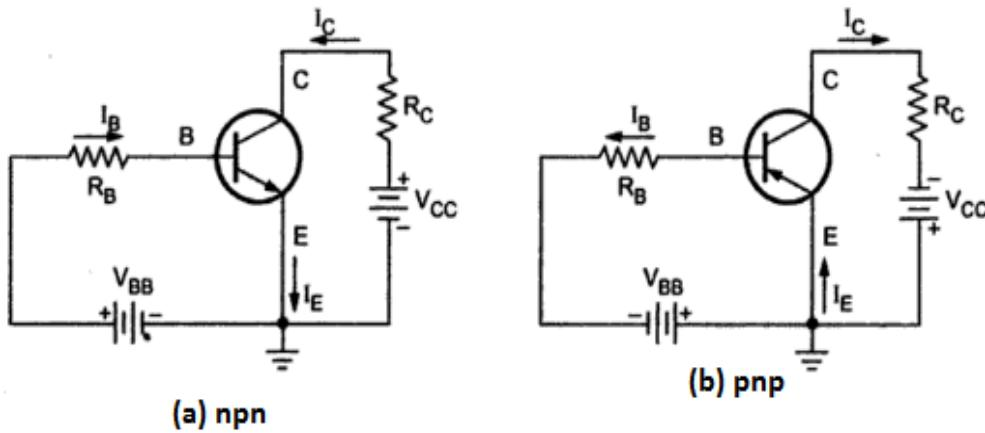

Fig. 3.10 Common Emitter Configuration
- Consider a transistor (either NPN or PNP) in a common emitter configuration as shown in Figure 3.10 (a) and (b).